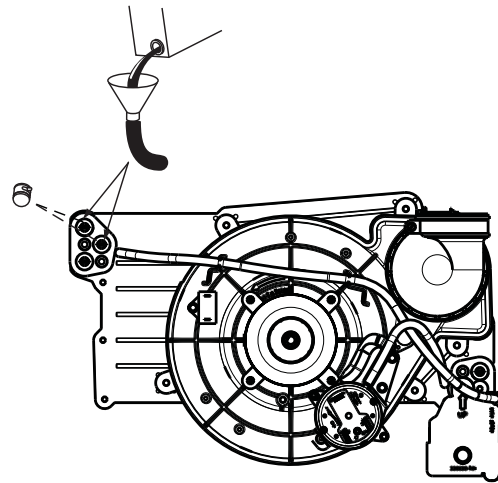

Fig. 65 - Priming Condensate Trap
4. Remove the top unused rubber plug from the port on the collector box opposite the condensate trap. See Fig. 65.
9. Remove the middle unused rubber plug from the port on the collector box opposite the condensate trap. See Fig. 65.